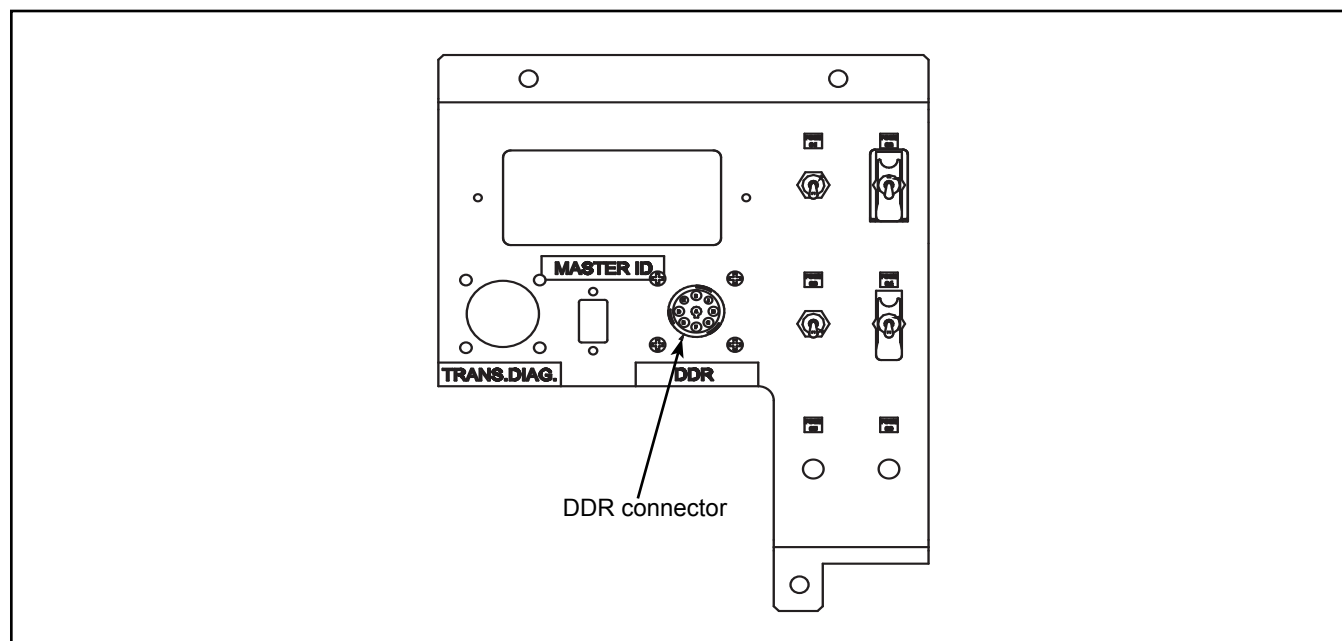

Figure 4 - DDR Connector in a Typical Control Panel
- 3.2. Connect one end of the Cummins Inline interface to the **DDR** plug in the panel located in the compartment and to your laptop computer. See Figure 4.